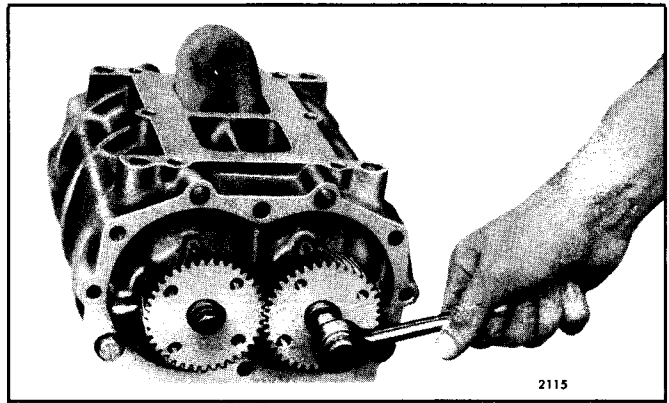

Fig. 17 - Installing Blower Rotor Gears
11. Wedge a clean cloth between the blower rotors. Use the gear retaining bolts and plain washers to press the gears on the rotor shafts (Fig. 17). Turn the bolts uniformly until the gears are tight against the shoulders on the shafts.